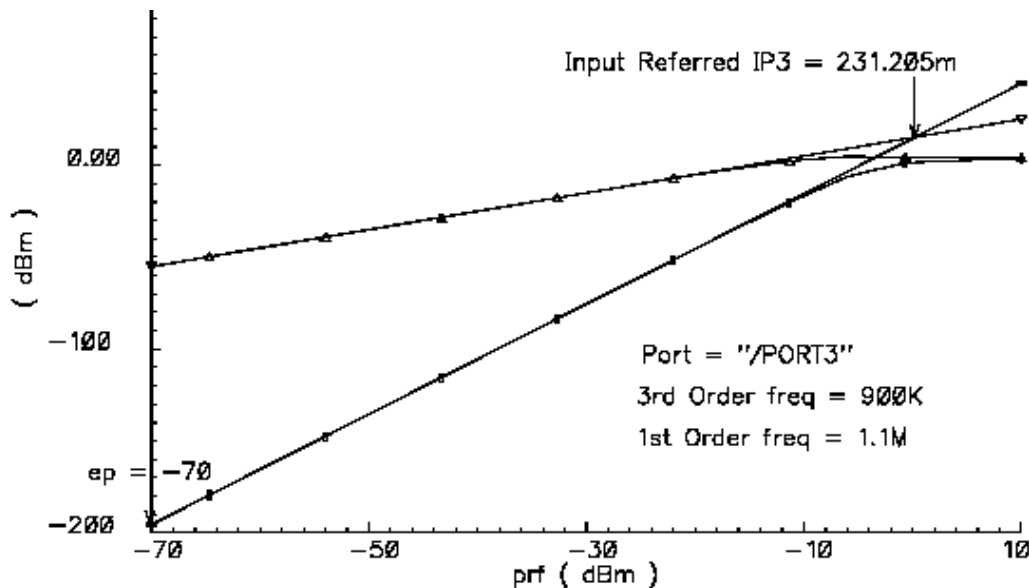

Fig 12: IIP3 using QPSS and QPAC
- Activate the *Schematic Window* and click on *IF port* to view the results as shown in Fig12